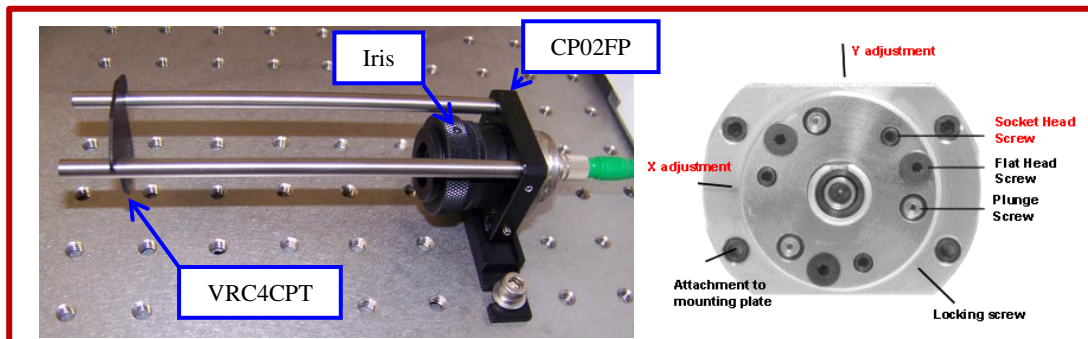

Figure 5.1.1 (Left) FiberPort Alignment Configuration, (Right) FiberPort showing adjustments
- F) Ensure that the beam is parallel to the cage structure by sliding the alignment plate (Item # VRC4CPT) along the ER6 cage (temporarily attached) rods as shown on Figure 5.1.1 (left) with the iris adjusted to its smallest aperture. The intensity of the beam transmitted through the hole in the alignment plate should be constant as the distance the alignment plate is from the iris is changed.
- 12) Turn the laser on to ensure that beam is aligned through the center of the iris on the output port of the KCB1 and along the cage structure using the VRC4CPT as previously illustrated in Figure 5.1.1. Remove this KCB1 with mirror and put it aside as it will later be used for the coupling to the vertical path of the microscope.